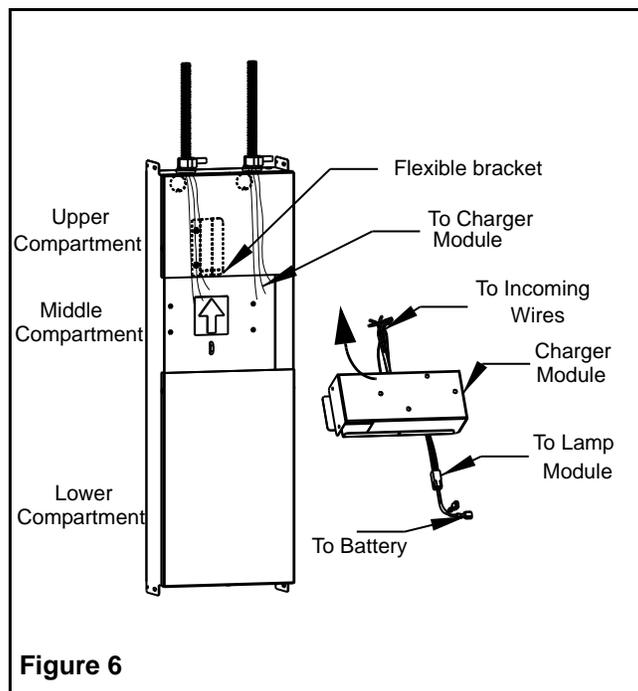

Figure 6
Charger Module Installation (Figure 6)
8. Place the charger module in the back-box with the outcoming wires on the right side. Enter the module at an angle, to bypass the flexible bracket in the back-box; then slide the module upward, until it is latched by the flexible bracket. (Figure 6).